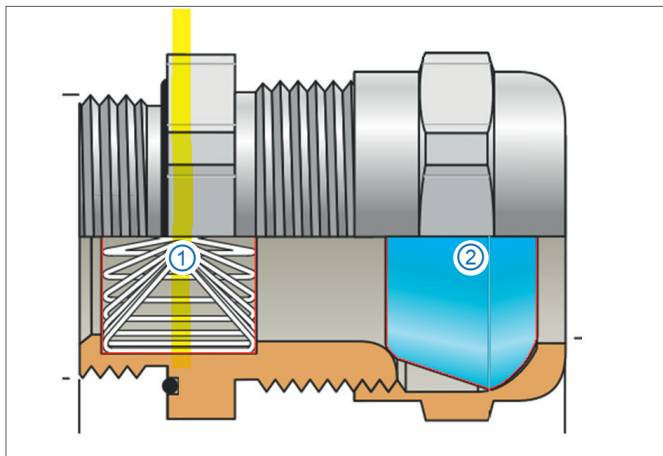

Fig. 7-1: PG gland (longitudinal section)
The spring ① is located exactly on the same level as the sealing insert ② inside the connecting thread of the PG gland (Fig. 7-1). To ensure proper contact between the cable shield and the spring in the PG gland, the cable must be carefully assembled.